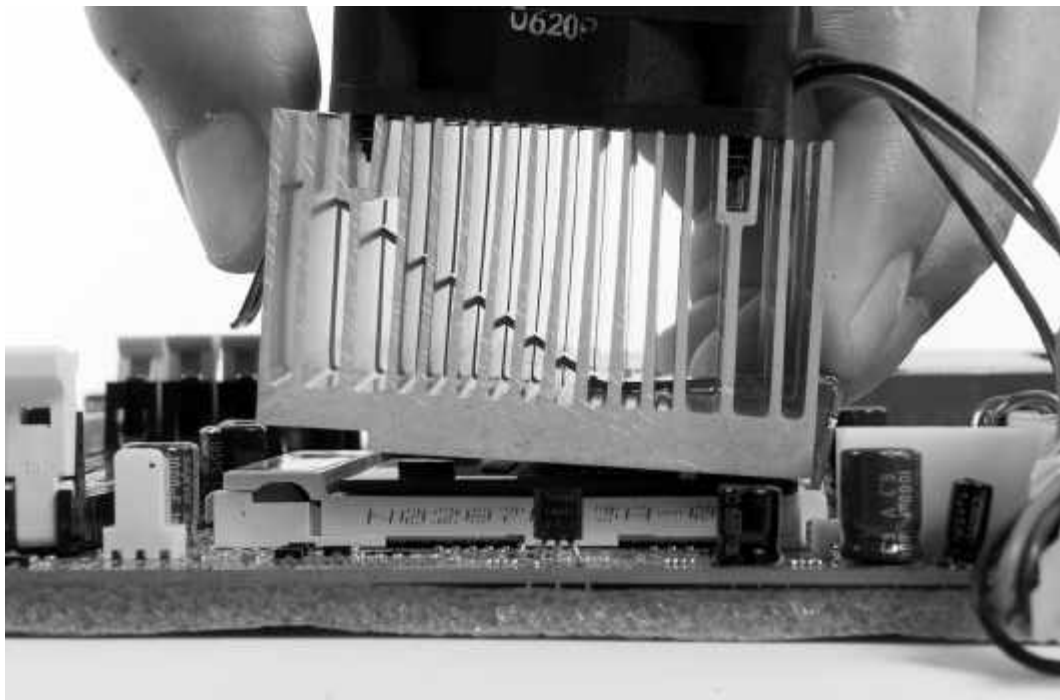

Figure 11. Side View of Heatsink and Clip on an Socket A AMD Processor
11. Figure 11 shows a side view of the heatsink with the retaining clip at the bottom of the heatsink. Make sure that the retaining clip is in this position before trying to install the heatsink. Notice that the clip is *not* symmetrical. The long end always attaches to the top of the socket (the end that reads "Socket 462"), while the short end engages the bottom of the socket. No matter which heatsink is used, the clip is always installed in the same manner.